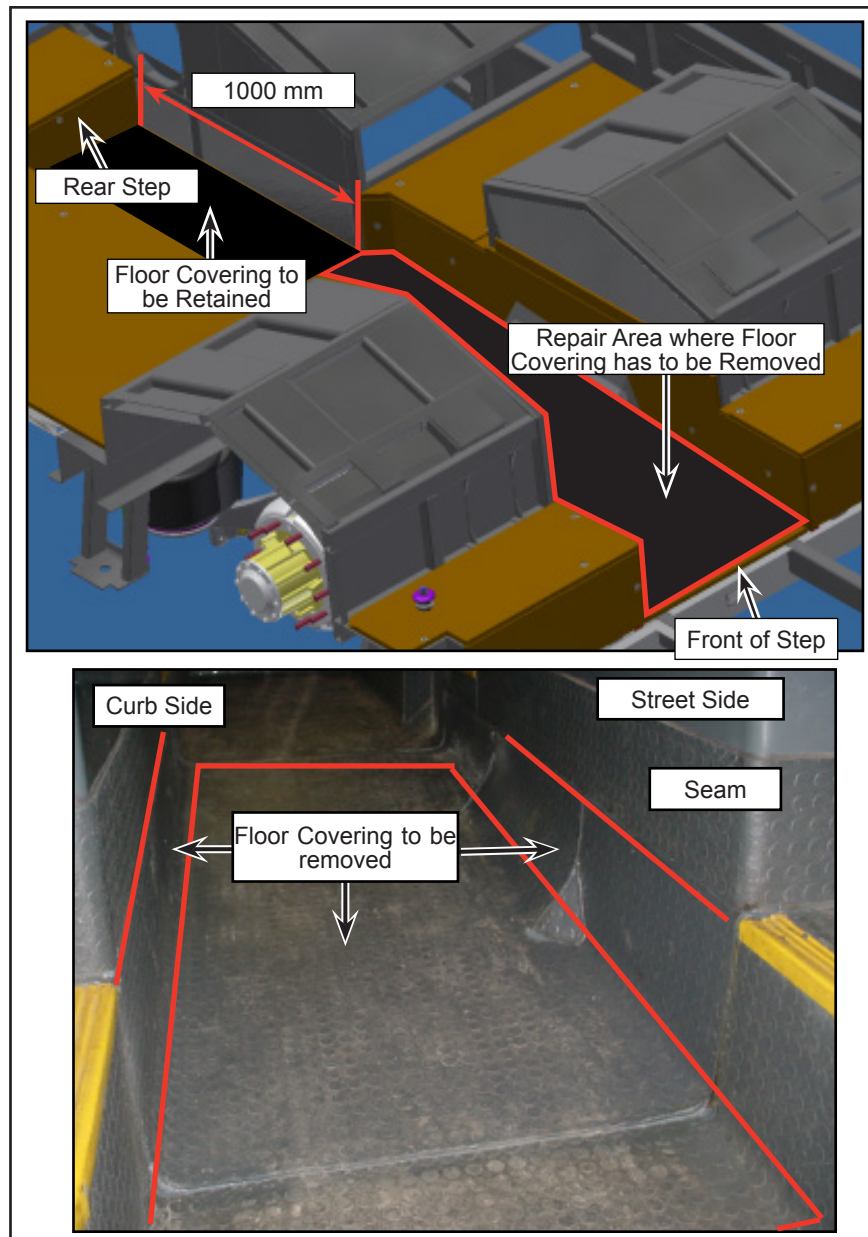

Figure 4 - Typical Location of Repair Area
2.12. Mark the outline of the area to be repaired with a washable marker as shown (see Figure 4).